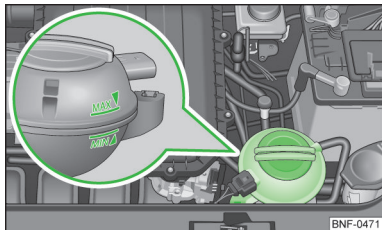

Fig. 101
The description of the coolant is shown in the coolant expansion reservoir » Fig. 101 on page 112.
- Do not fill the coolant above the **MAX** mark » Fig. 101 on page 112.
Coolant expansion reservoir » Fig. 101
➤ Check the level of coolant in the coolant expansion bottle » Fig. 101.
If the engine is warm, the test result may be inaccurate. The level can also be above the mark "MAX" » Fig. 101.